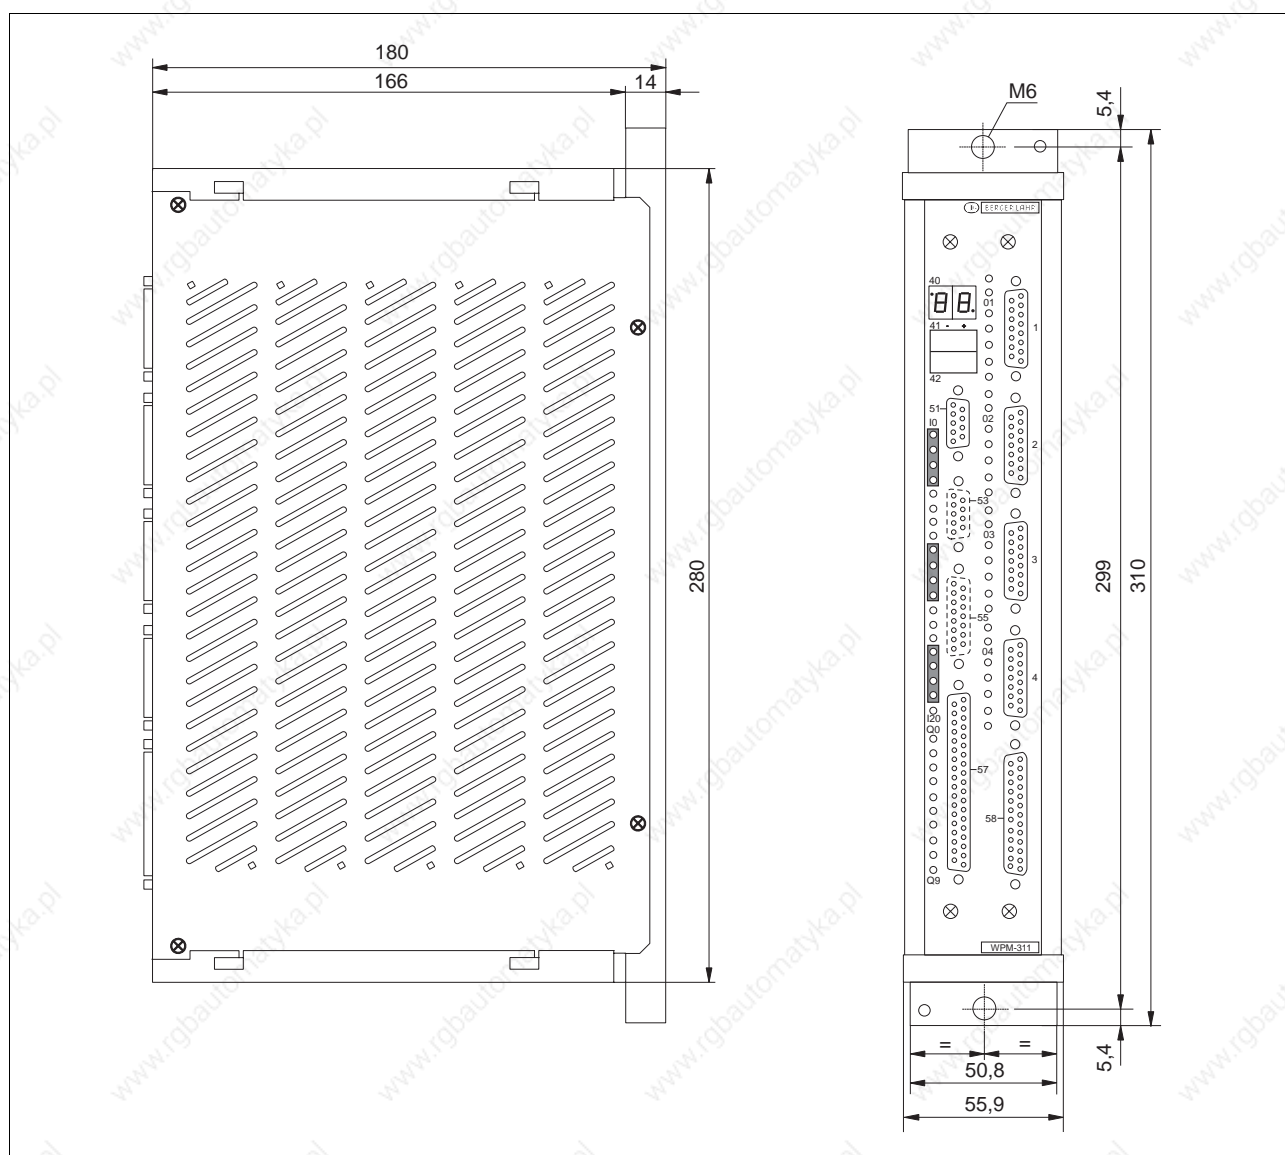

Fig. 1-9 WPM-311 dimensions with 5-phase housing
See fig. 1-9
1. Drill two holes into the mounting panel; see fig. 1-9 for the dimensions.